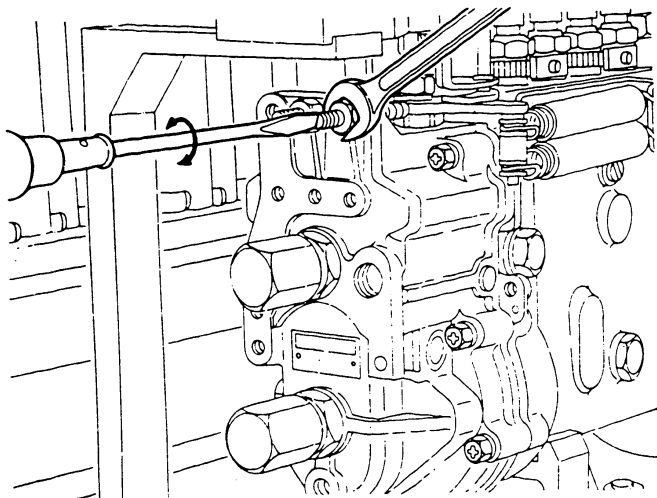

Fig. 150 Adjustment of the maximum-speed setting bolt
2. Adjust the maximum-speed setting bolt so that the control rack begins moving toward the fuel decrease direction at a pump speed of  $N_g$  rpm. Then, lock the maximum-speed setting bolt with the nut. (Figs. 150 and 152)